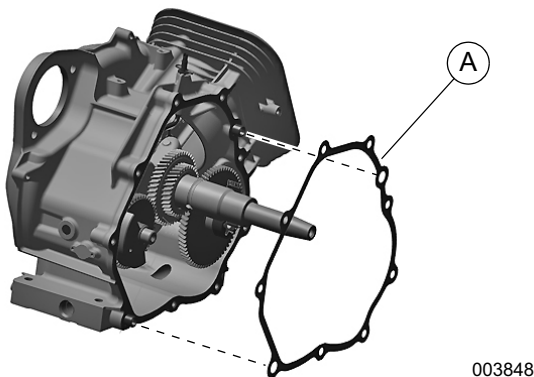

Figure 14-26. Install Gear Cover Gasket
1. See Figure 14-26. Install gear cover gasket (A) on crankcase mating surface. Verify gasket is aligned with dowels and seated correctly.